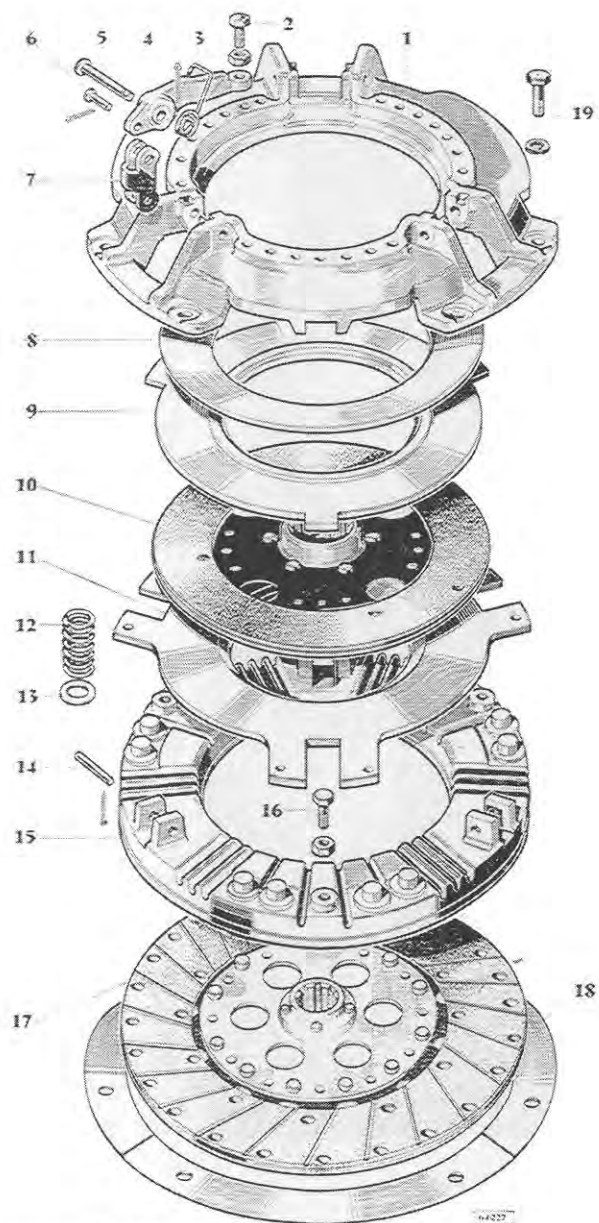
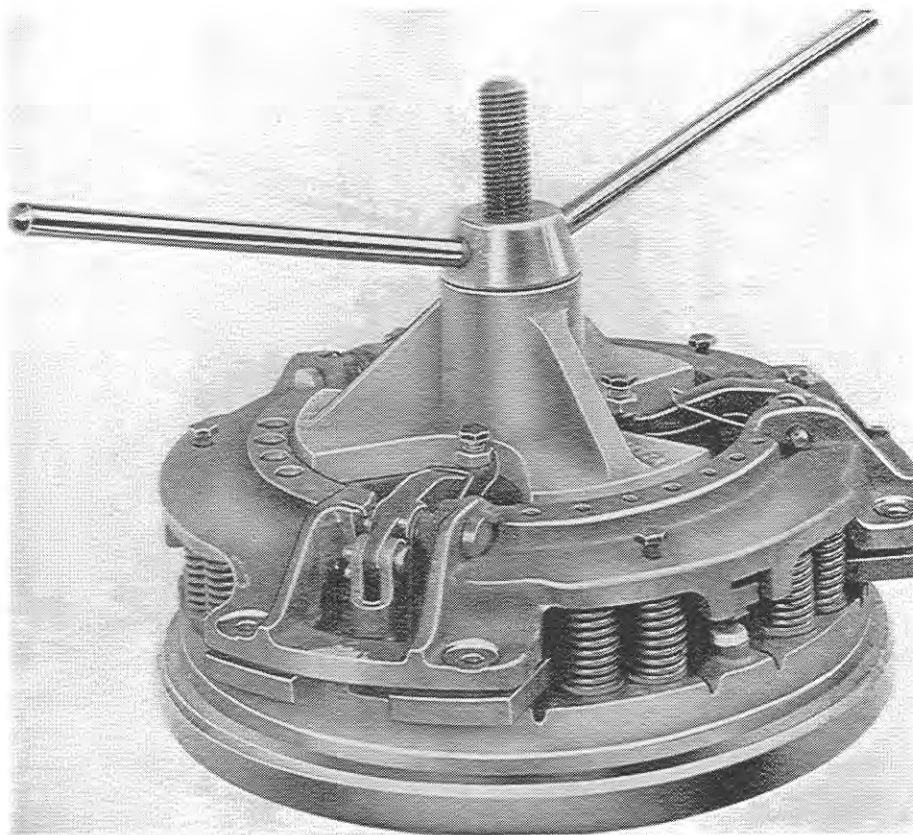

Fig. 3
Fig. 7
- 1) Firstly install three slave bolts (arrowed Fig. 7) to attach the clutch cover (1 - Fig. 3) to the pressure plate (15 - Fig. 3).
- 3) Release progressively and diagonally the six screws (19 - Fig. 3) which attach the clutch mechanism to the flywheel.
- 4) Remove the three cooling deflector segments (18 - Fig. 3) from beneath the clutch cover and the flywheel.
- 2) Remove the lever pivot pin retainer (5 - Fig. 3).
- 7) Gather all the clutch parts and arrange in the order shown on the exploded view (Fig. 3).
- 2) Invert the clutch cover (1 - Fig. 3) and place it flat on the bench. Place in it the Belleville spring (8 - Fig. 3) with its outside diameter centred in the cover, and on top of this place the secondary pressure plate (9 - Fig. 3).
- 4) Lay the primary pressure plate (15 - Fig. 3) on the Service Tool base plate and install on it the false flywheel (11 - Fig. 3) the secondary driven disc (10 - Fig. 3) the spring seat washers (13 - Fig. 3) the clutch springs, the three secondary clutch release screws (16 - Fig. 3) the three guide rods and finally the release levers (4 - Fig. 3) and their pivot links (6, 7, 14 - Fig. 3).
- 7) With the clutch springs fully compressed, remove the three guide rods and fit the three slave bolts (Fig. 7). Remove the assembly clips.